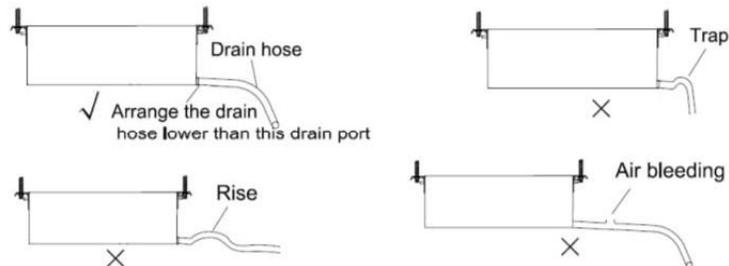

Fig. 4.21
1. Keep piping as short as possible and install the drain hose with downward gradient (1/50 to 1/100) no risers or traps are used for the hose.(Fig. 4.21)
2. Be sure there is no crack or leak in the drain hose to avoid the formation of air pockets.(Fig. 4.21)